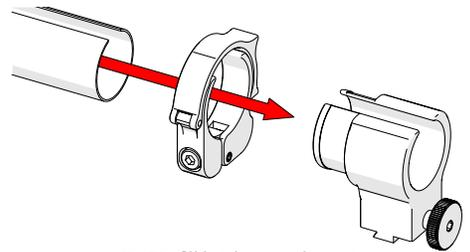

Fig. 74 - Slide tube around mount
2. Slide the clamp around the tube first and then slide the tube around the outside of the cable management dovetail mount (Fig. 74). Align the zipper opening and the cable management dovetail mount opening.